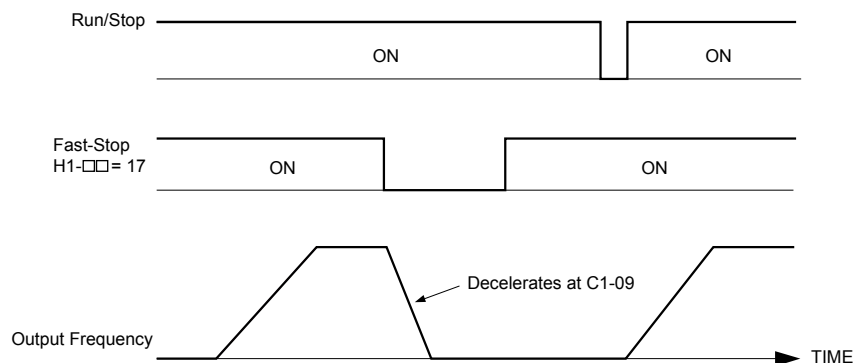

Figure 5.50 Fast-stop Sequence
*Figure 5.50* shows an operation example of Fast-stop.